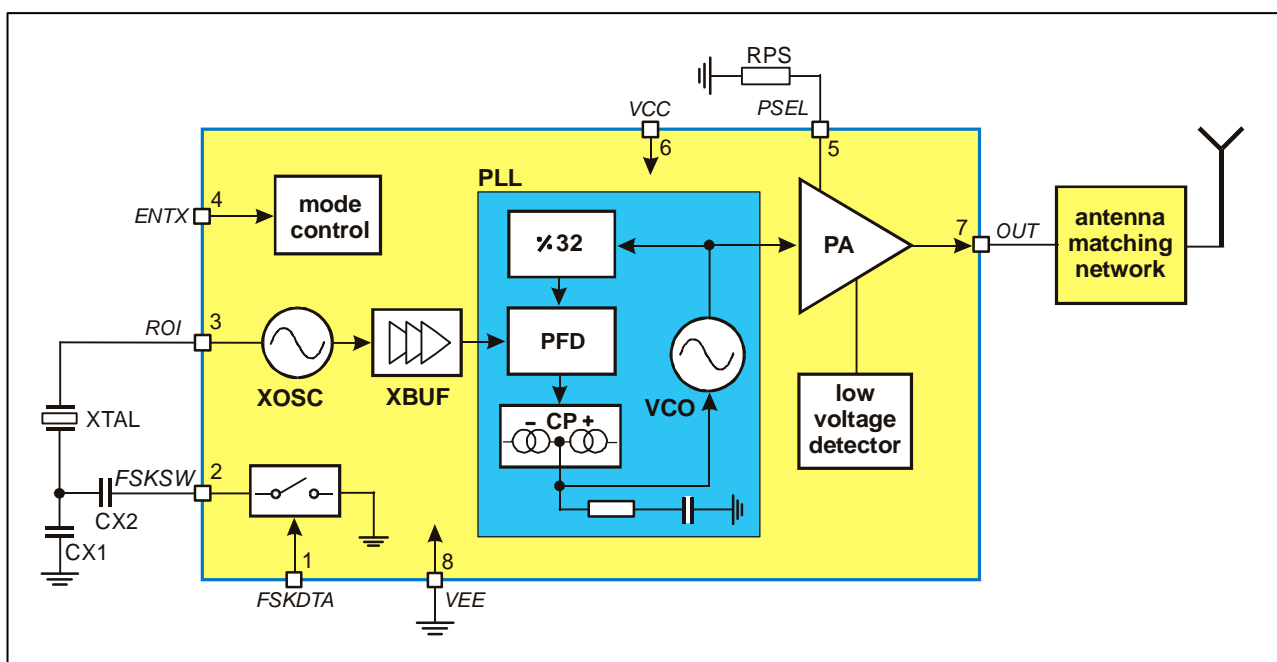

Fig. 1: Block diagram with external components
As depicted in Fig.1, the TH72031 transmitter consists of a fully integrated voltage-controlled oscillator (VCO), a divide-by-32 divider (div32), a phase-frequency detector (PFD) and a charge pump (CP). An internal loop filter determines the dynamic behavior of the PLL and suppresses reference spurious signals. A Colpitts crystal oscillator (XOSC) is used as the reference oscillator of a phase-locked loop (PLL) synthesizer. The VCO's output signal feeds the power amplifier (PA). The RF signal power  $P_{out}$  can be adjusted in four steps from  $P_{out} = -12$  dBm to  $+9.5$  dBm, either by changing the value of resistor RPS or by varying the voltage  $V_{PS}$  at pin PSEL. The open-collector output (OUT) can be used either to directly drive a loop antenna or to be matched to a 50Ohm load. Bandgap biasing ensures stable operation of the IC at a power supply range of 1.95 V to 5.5 V.